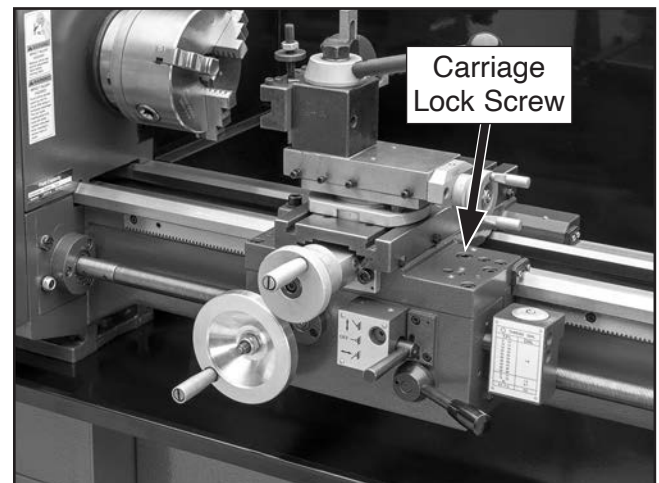

Figure 127. Location of carriage and compound rest lock screws.
- Loosen carriage lock screw (see **Figure 127**).